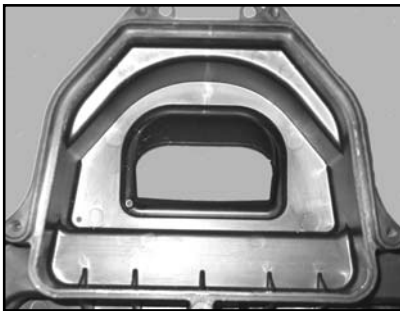

Fig. 1
2. Carefully clean the air filter sealing surface in the air box. (Fig. 1)